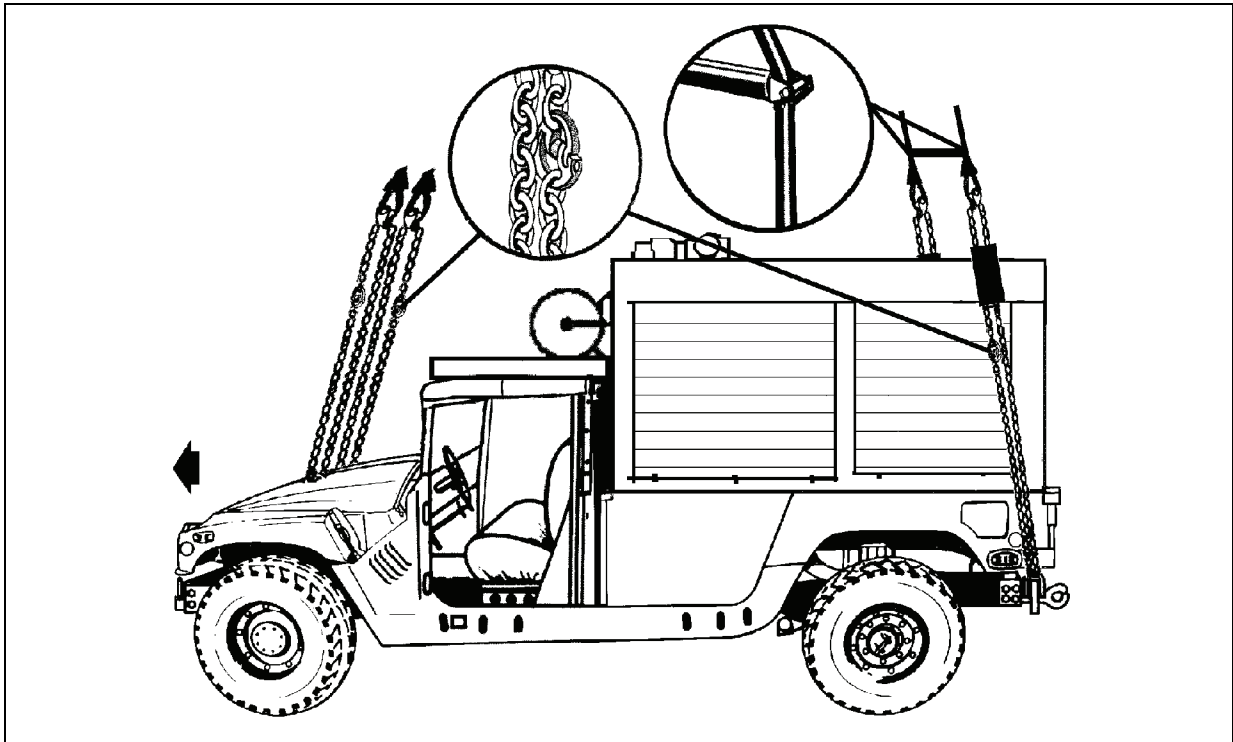

Figure 2-18. M1097 with Contact Maintenance Truck, Heavy
- **Rigging.** Rig the load according to the steps in Figure 2-18.